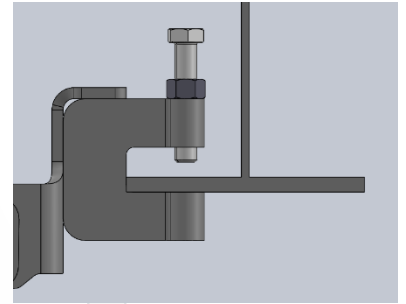

Figure 2: Clamp Placement
- a. The inside face of the beam clamp should be roughly flush with the edge of the flange, as shown in Fig. 2.
- a. Align the Latch Assembly to the center of the tire. The inside face of the clamps should be flush with the clamps, as shown in Fig. 2.